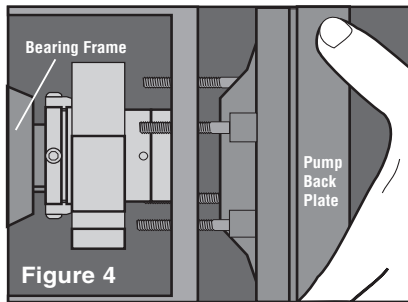

Figure 4
- 6.5 **Install the pump back plate** (seal chamber) and bolt it in place on the bearing frame. See Figure 4.